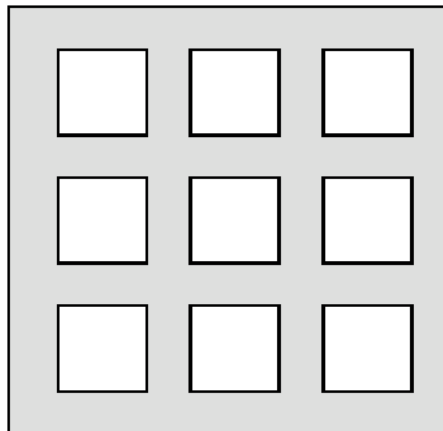

Figure 9. Solder Paste Application on Exposed Pad
- 3. For the PCB thermal pad, solder paste should be printed on the PCB by designing a stencil with an array of smaller openings that sum to 50% of the QFN exposed pad area. Solder paste should be applied through an array of squares (or circles) as shown in Figure 9.